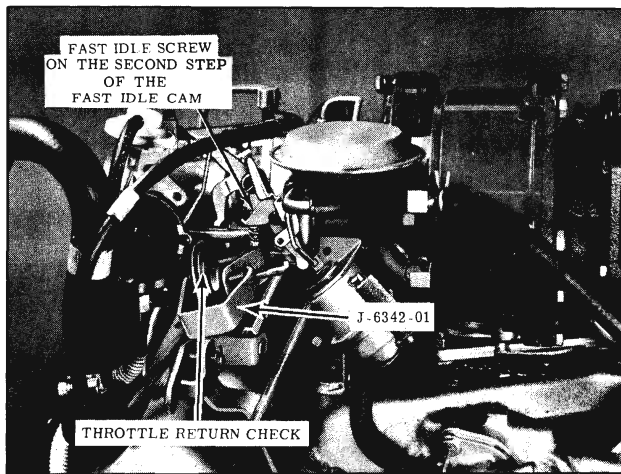

Fig. 3-333 Fast Idle Adjustment
13. With transmission in "N" adjust the fast idle to 1500 R.P.M. with the fast idle screw on the second step of the fast idle cam, air conditioning-"OFF". (Fig. 3-333)